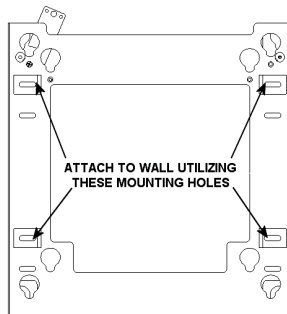
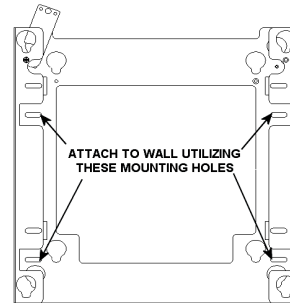

Figure 6
Figure 7
2. Mount plasma static mount onto wall utilizing wall studs or supporting framework with the proper face of the mount away from the wall for the respective plasma (see WARNING, Figure 6, & Figure 7).